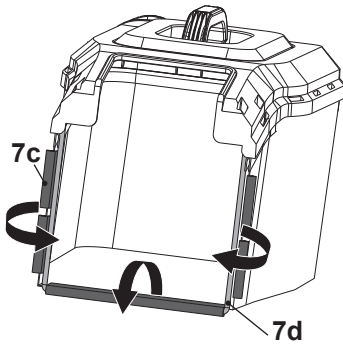

Fig. 5
1. Clip the three rubber clips (7c) to the supporting rod (7d) of the grass catcher (7) (Fig. 5).